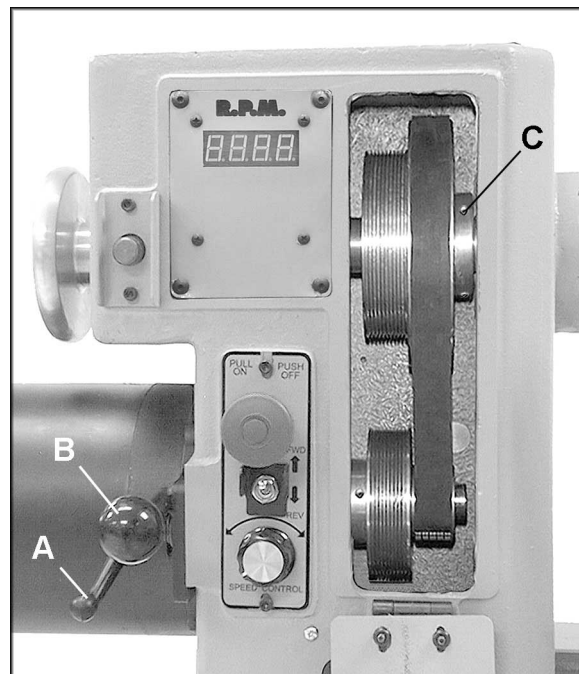

Figure 25
3. Loosen the pivot lock handle (A, Figure 25) and lift up the tension handle (B, Figure 25) to raise the motor. Tighten the pivot lock handle (A, Figure 25) to hold the motor in the raised position.
5. Loosen the pivot lock handle (A, Figure 25) and lower the motor to tension the belt. Be sure that the Poly-V grooves of the belt seat properly in the corresponding groove of the sheave. Do not overtension; a very light pressure on the tension handle (B, Figure 25) is adequate to prevent belt slippage.
6. Tighten the pivot lock handle (A, Figure 25).
The motor and spindle sheaves are aligned with each other at the factory, but if any service is performed that affects their alignment it is very important that they be realigned. To realign them, loosen the two set screws on the spindle sheave (C, Figure 25) with a hex wrench, and slide the spindle sheave into the proper position. Re-tighten set screws.
2. Loosen the pivot lock handle (A, Figure 25) and lift up the tension handle (B, Figure 25) to raise the motor.
3. Tighten the pivot lock handle (A, Figure 25) to hold the motor in the raised position. Slip the belt off the pulleys.
7. If replacing the spindle sheave, loosen the two set screws (C, Figure 25), and slide the sheave off the spindle.